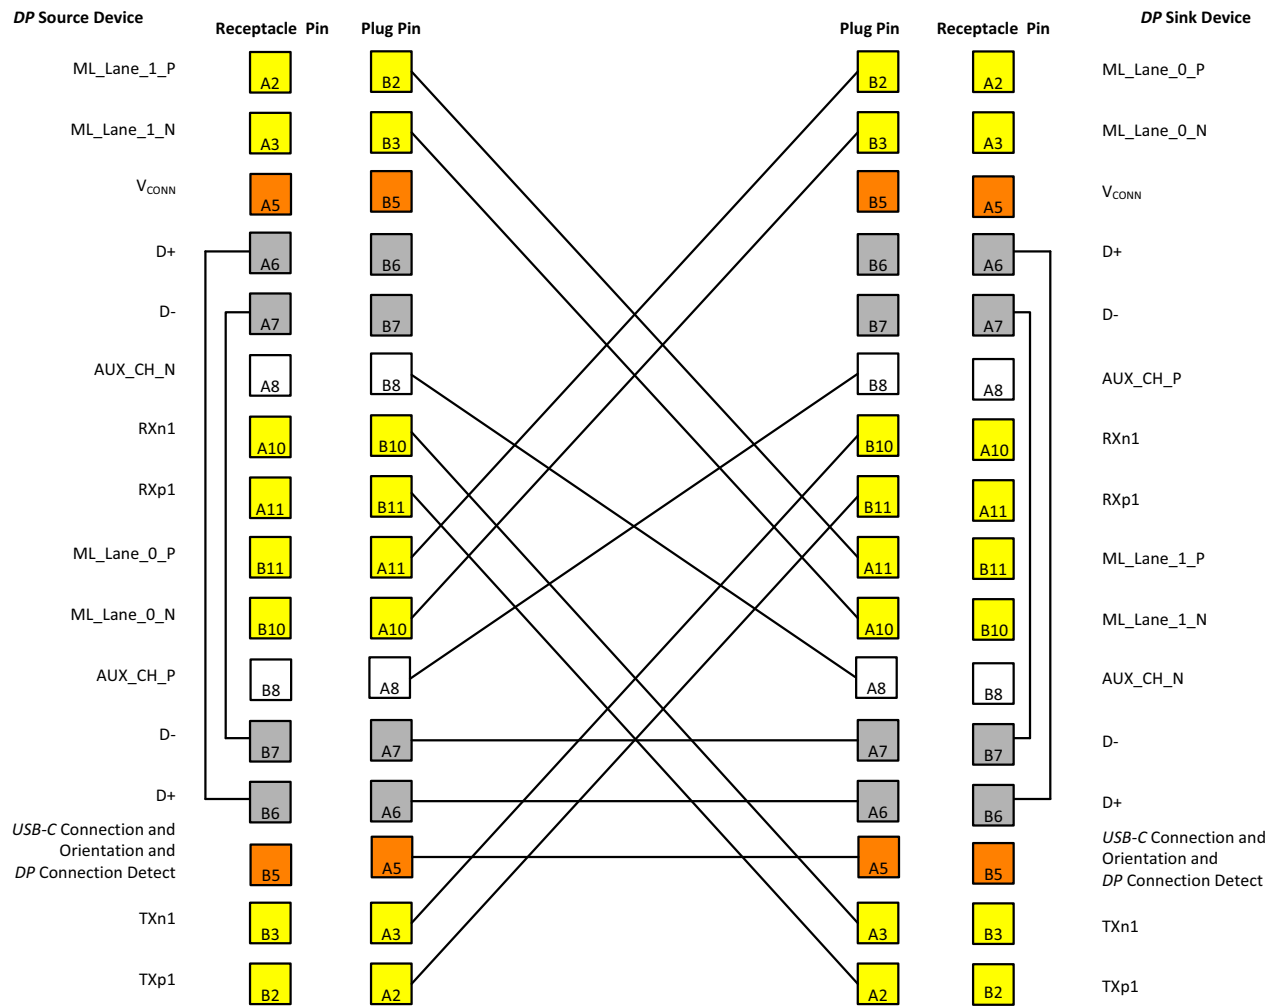

Figure 4-25: Scenario 4a Multi-function Cable Wiring – DP Source and Sink Device Flipped Plug Orientation
- Figure 4-25 illustrates when the plugs at both ends are flipped